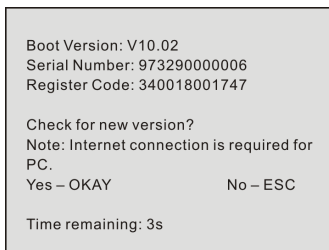

Figure 7-6
2. If a newer version is found, a screen similar to Figure 7-6 will appear.